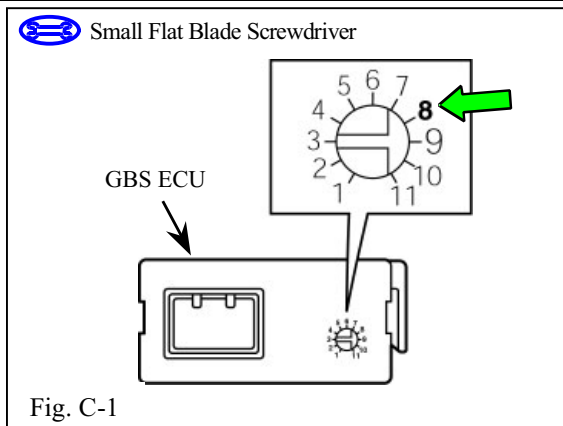

Fig. C-1
- ➔ 1. Turn the GBS adjustment screw on the GBS ECU to the "8" position. (Fig. C-1)